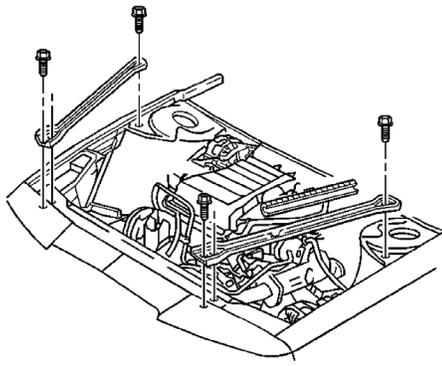

Fig. 2 Front fender upper diagonal brace & bolt
6. Remove front fender upper diagonal brace to inner fender bolt, **Fig. 2**.